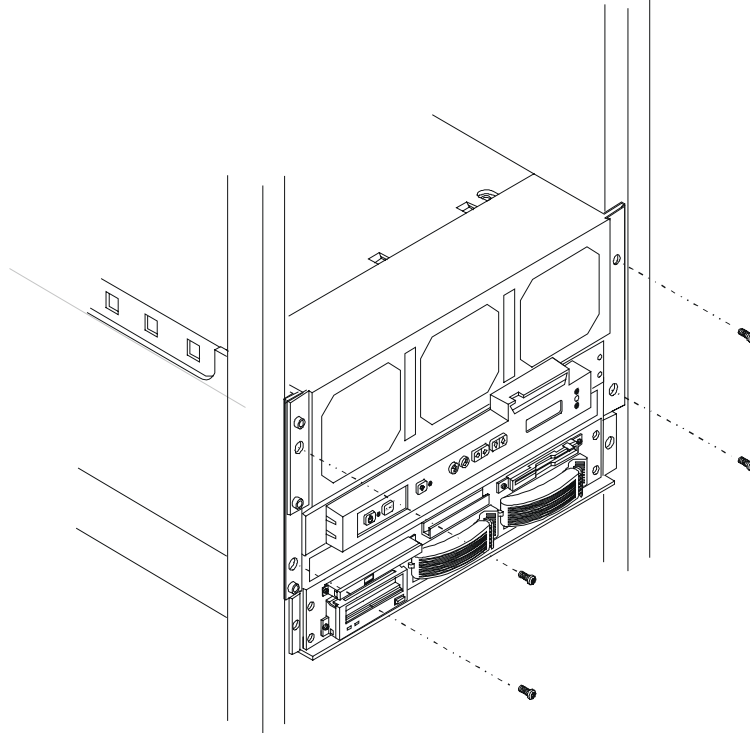

Figure 2-1. Remove Screws Securing the HP NetServer to Rack Columns
1. Remove the four screws that secure the HP NetServer to the rack columns, as shown in Figure 2-1.